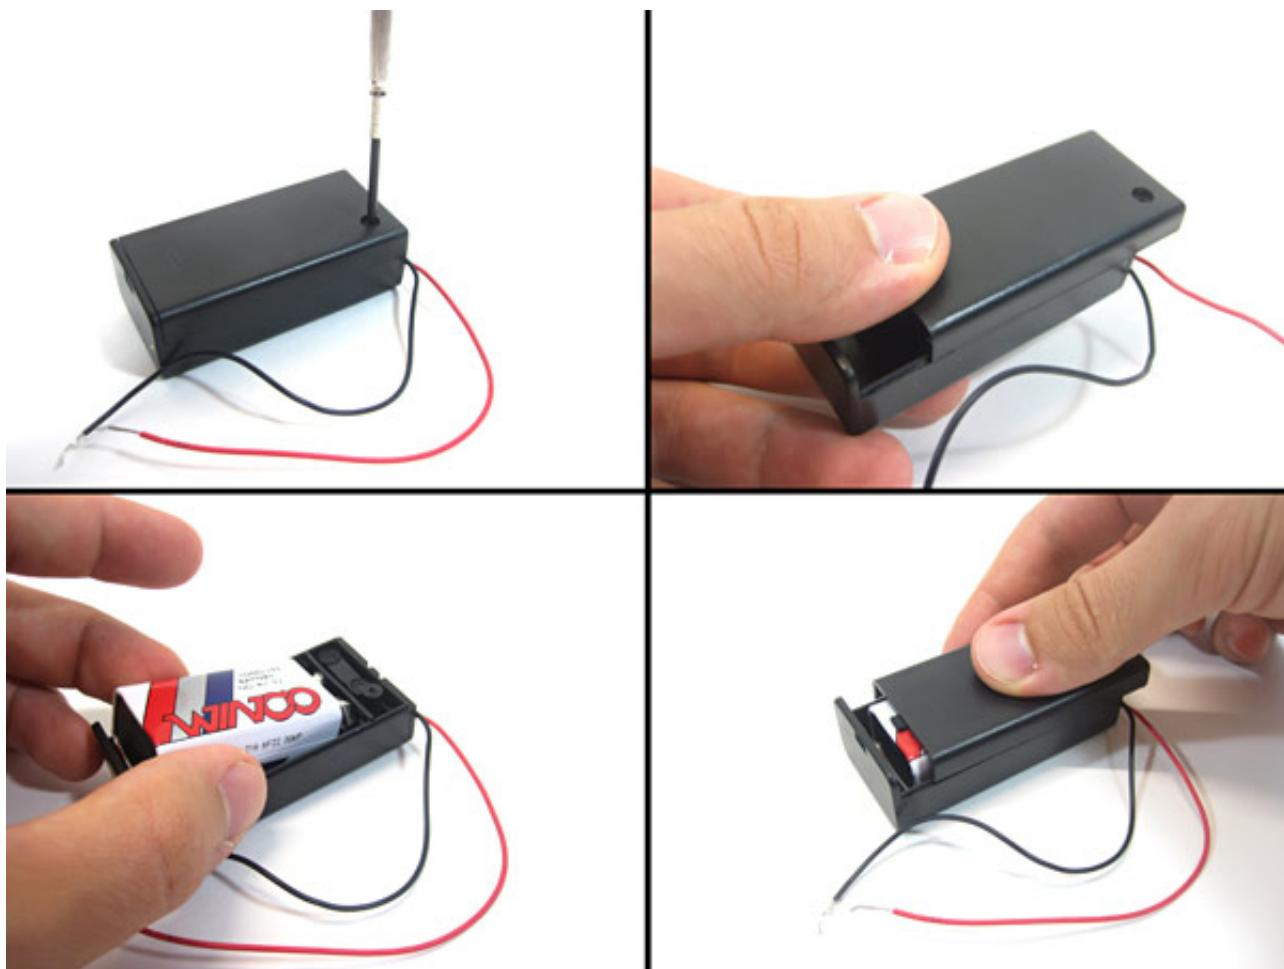

Figure 3. Steps to insert the battery into the battery holder.
2. Put the 9 V battery into the 9 V battery holder, as shown in Figure 3, below.